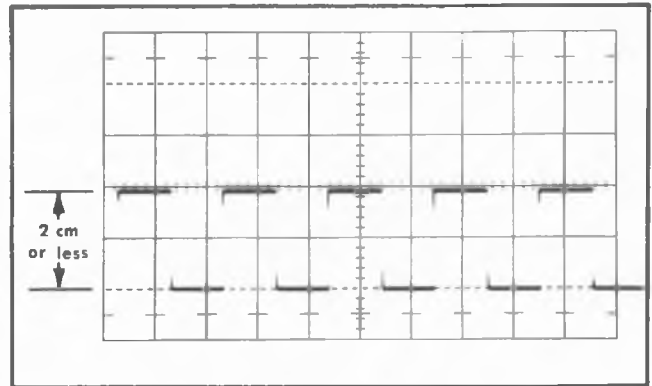

Fig. 6-11. Checking the VARIABLE control 2.5:1 ratio. This display is within the 2-cm amplitude requirement.
- b. Check the vertical amplitude of the display. The display amplitude should be 2 cm or less (see Fig. 6-11) to meet the 2.5:1-or-better ratio requirement.